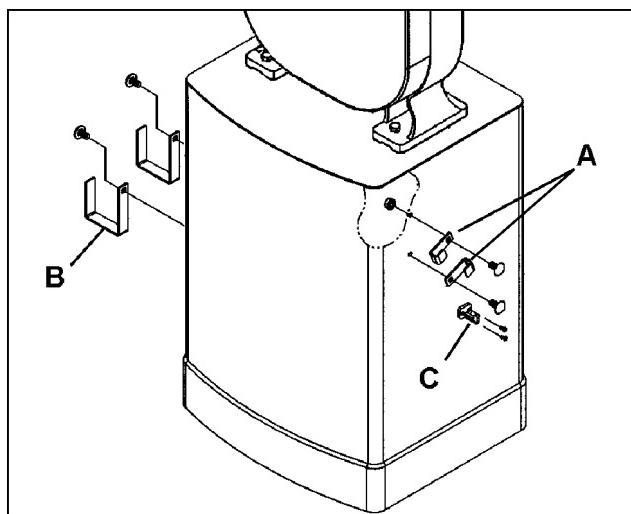

Fig. 12
- Mount the two miter gauge hooks (A, Fig. 12) to the side of the stand with two M8 x 16 carriage bolts and two flanged hex nuts. When not in use, the miter gauge can be placed in these hooks (see "Miter Gauge", page 23).
- Mount the blade hook (C, Fig. 12) with two M4 x 10 pan head screws as shown. The blade hook will hold a rolled-up spare blade.
- Mount the two fence hooks (B, Fig. 12) to the opposite side of the stand with two M8 x 16 carriage bolts and two flanged hex nuts. When not in use, the rip fence can be placed in these hooks.